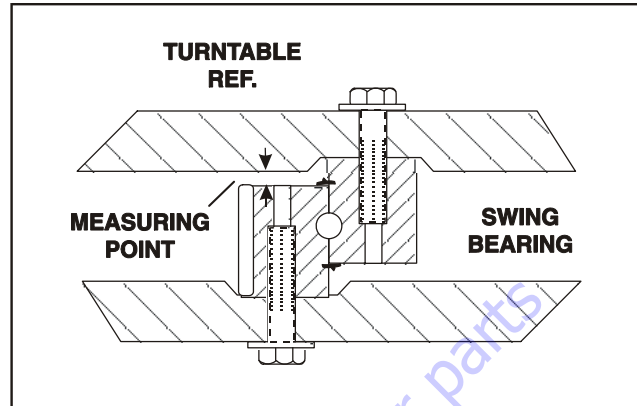
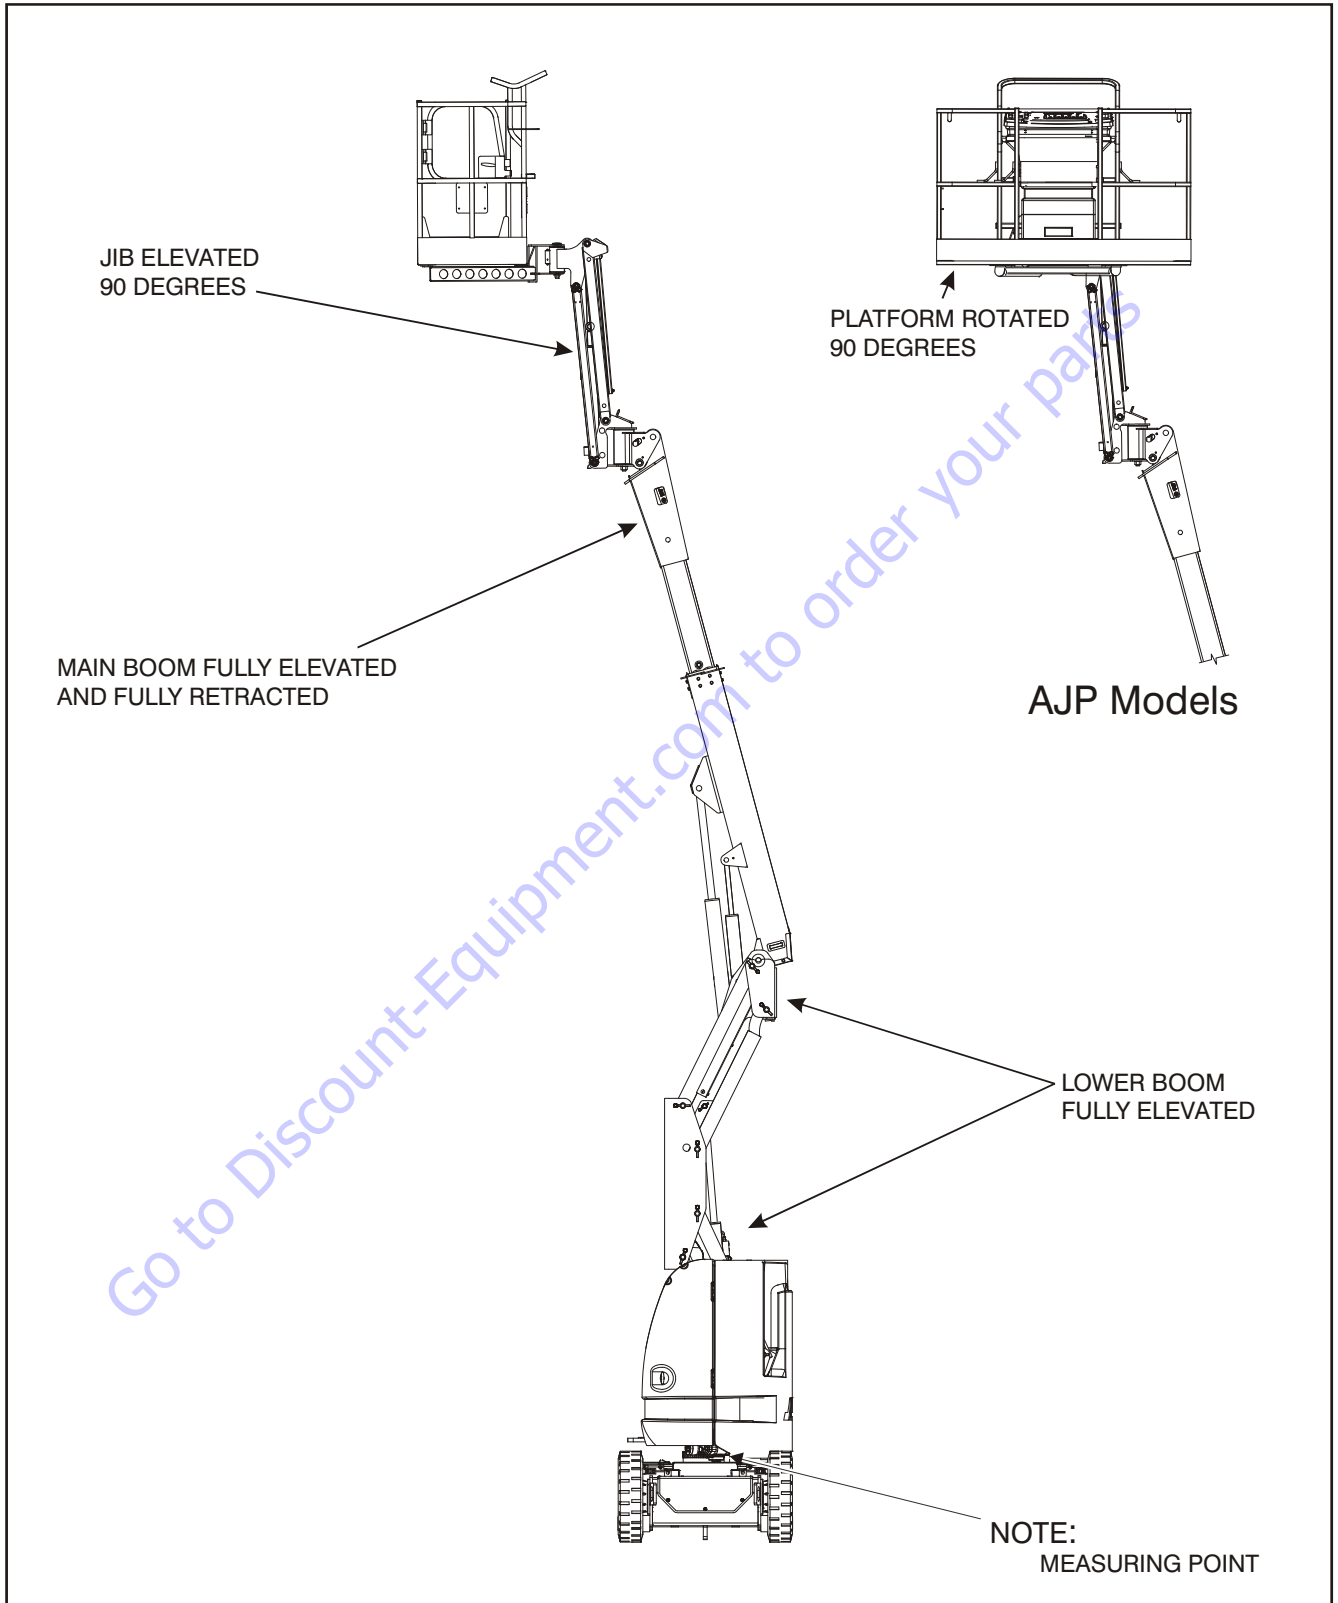
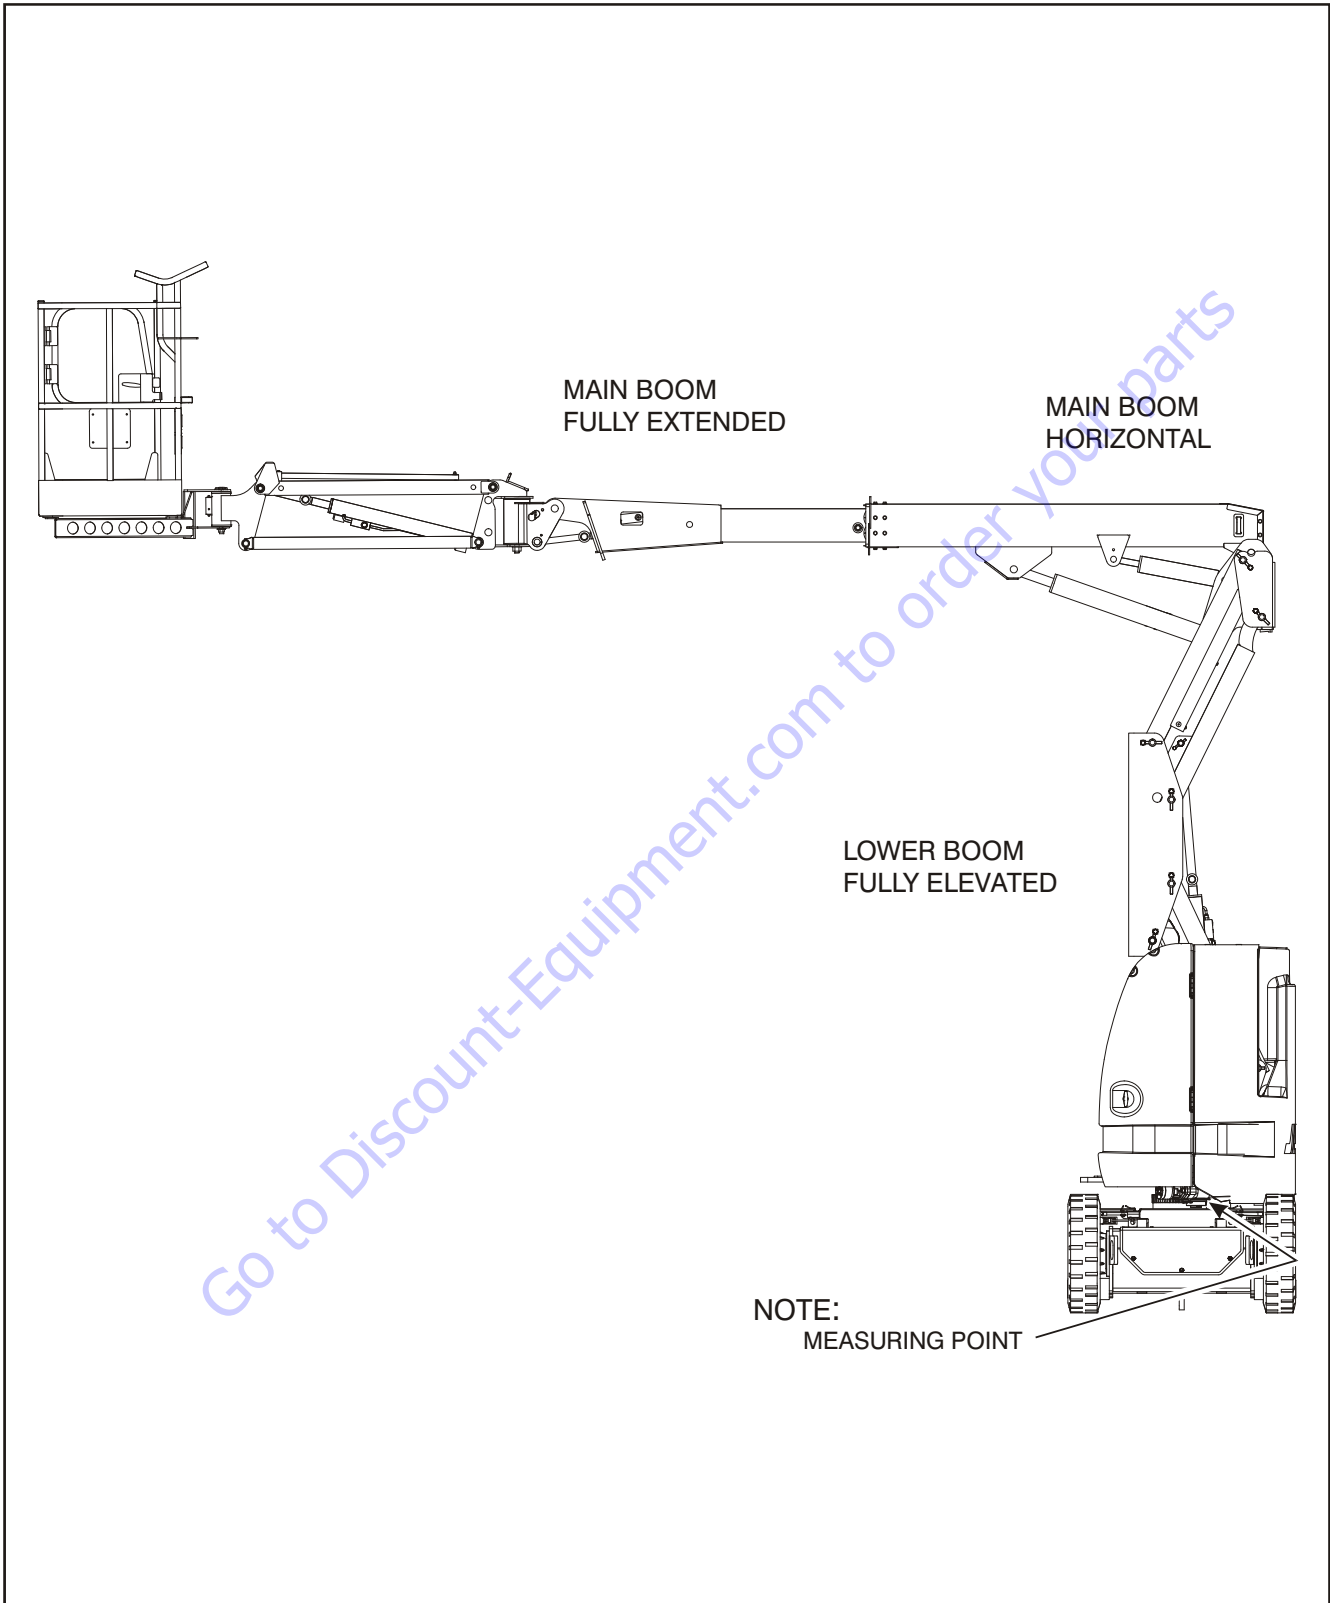

Figure 3-23. Swing Bearing Tolerance Measuring Point
Figure 3-24. Swing Bearing Tolerance Boom Placement
Figure 3-25. Swing Bearing Tolerance Boom Placement
- b. At the position indicated on Figure 3-24., Swing Bearing Tolerance Boom Placement try and insert the 0.0015" feeler gauge between the bolt head and hardened washer at the arrow indicated position.
- b. At the positions indicated on Figure 3-24., Swing Bearing Tolerance Boom Placement try and insert the 0.0015" feeler gauge between the bolt head and hardened washer at the arrow indicated position.
- d. At the position indicated on Figure 3-24., Swing Bearing Tolerance Boom Placement try and insert the .0015" feeler gauge between the bolt head and hardened washer at the arrow indicated position.
- 1. With the boom positioned over the side of the machine, the Upper Boom horizontal with telescope fully extended and Tower Boom raised half way (approx 37°) See Figure 3-25., Swing Bearing Tolerance Boom Placement, using a magnetic base dial indicator, measure and record the distance between the swing bearing and turntable. (See Figure 3-23., Swing Bearing Tolerance Measuring Point)
- 2. At the same point, with the boom positioned over the side of the machine, the Upper Boom fully extended and fully retracted, the platform rotated max. to the side, and the Tower Boom fully elevated, (See Figure 3-24., Swing Bearing Tolerance Boom Placement) using a magnetic base dial indicator, measure and record the distance between the swing bearing and turntable (Figure 3-23., Swing Bearing Tolerance Measuring Point).